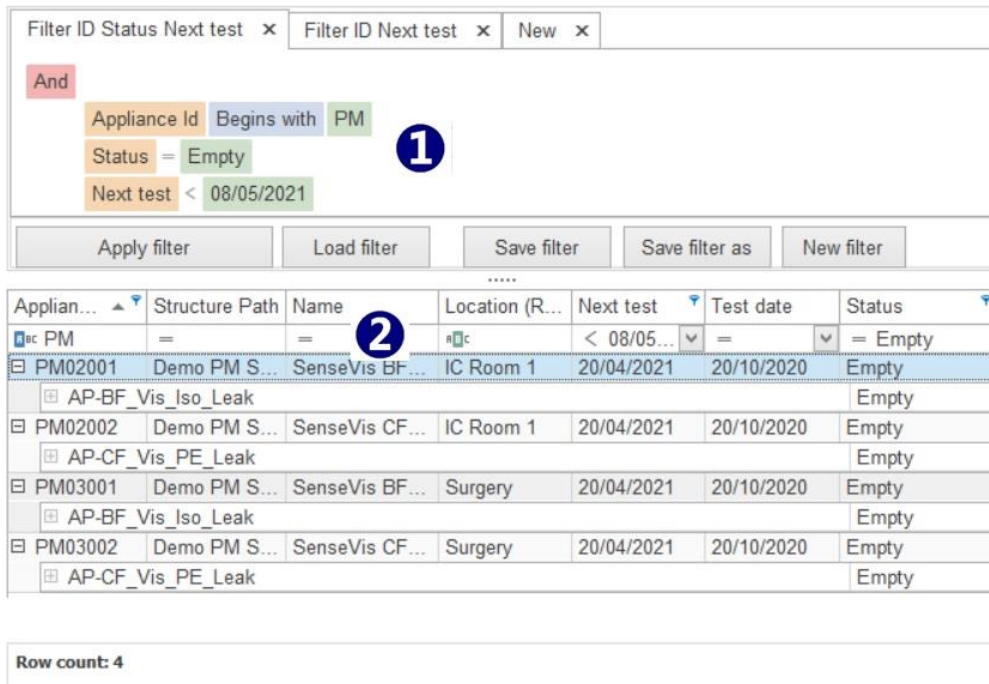

Figure 6.17: Appliance Custom data filter design options
- Custom filter: Right click within Results view area to open a menu window and check Custom filter option to open Custom filter design tab at the top of Result view area (1), see **Figure 6.17**.
- Row filter: Custom filter design is offered as a row beneath Address row of the Appliance table (2), see **Figure 6.17**. Custom filter and Row filter are equivalent. Settings of the Custom filter are mirrored to the Row filter and vice versa.